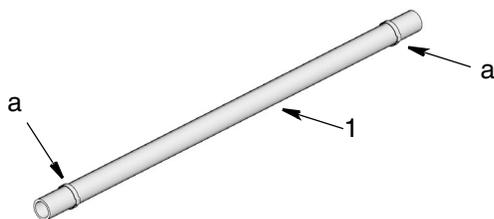

FIG. 5
- Slide new tube clamps (a) over each end of new sight tube (1). (FIG. 5)